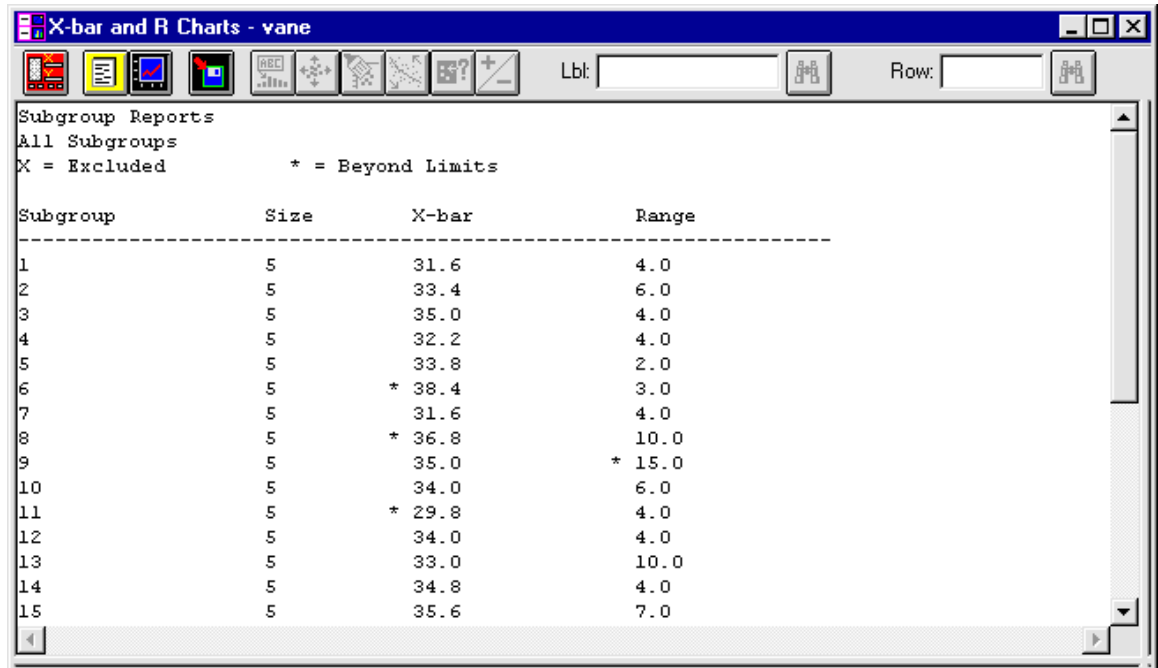

Figure 1-3. Subgroup Reports
5. Click the Tabular Options button to display the dialog box, then click Subgroup Reports, and click OK to display the report shown in Figure 1-3.